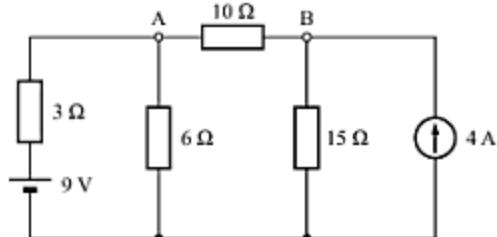

Fig. 4.41
- Find the current I in $10\text{-}\Omega$ resistor in the circuit shown in Fig. 4.41, using Thevenin's theorem.